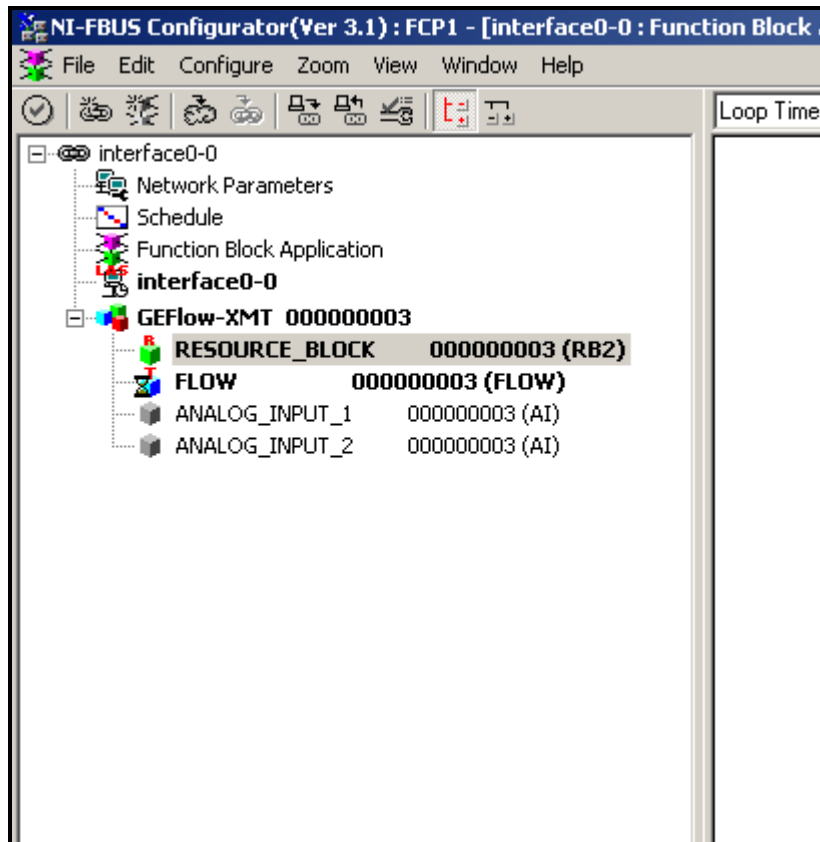

Figure 40: Configuration Utility Setup Example
Figure 40 below shows the Configuration Utility with a flowmeter on the network (GE Flow-XMT).
1. Double click on the AI block for which you wish to set the units (ANALOG_INPUT_1 or ANALOG_INPUT_2 in the tree under GEFlow-XMT; see Figure 40 on page 116).
1. Double click on the FLOW transducer block (in the tree under GEFlow-XMT; see Figure 40 on page 116).